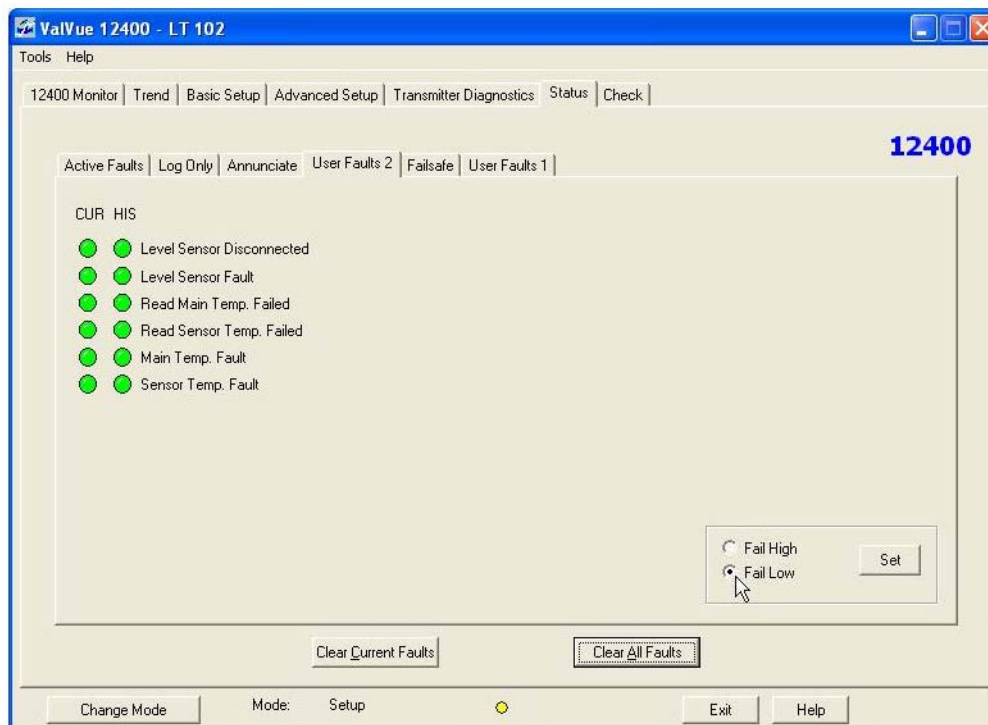

Figure 277 Fail Low Selected
2. Click on the correct radio button; **Fail High** or **Fail Low**. In Figure 277, *Fail Low* has been selected.